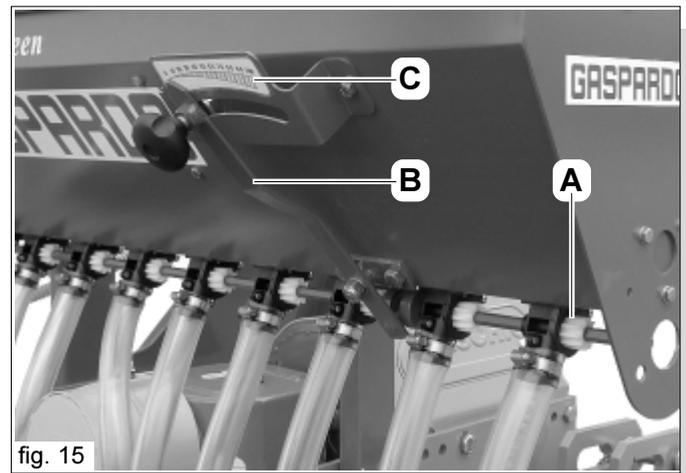

fig. 15
The distributing rollers (A Fig. 15) move lengthways, inside the spiral, and the lever (B) allows the filling volume of each roller to be changed.
- position of the lever of the distributing rollers (0-100) on the graduated scale (C Fig. 15).
Danger of damage to the distributing rollers: change the position of the lever (B Fig. 15) only when the distributing rollers are rotating or when the hopper is closed.